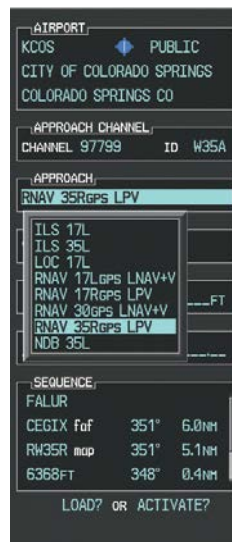

Figure 5-125 List of Available Approaches
c) Press the ENT Key. A list of available approaches for the destination airport is displayed as in Figure 5-125.
d) Turn either FMS Knob to select the RNAV LPV approach for 35R as shown in Figure 5-125.